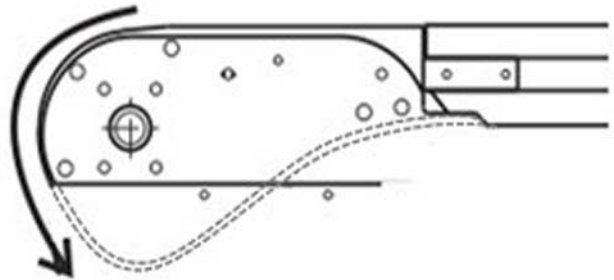

Figure 105
- The conveyor chain must show some slack during operation (See **Figure 105**).